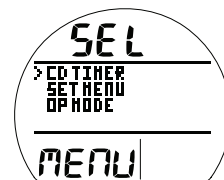

Fig. 96 - FREE SURF MENU
- M (< 2 sec) to access Menu (Fig. 96), while viewing FREE Surface Main.